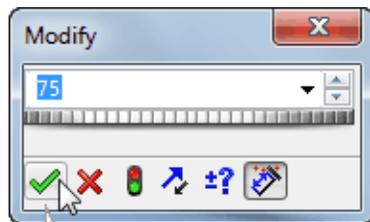

Figure 28 Changing the length dimension to 75 on the Modify dialog box
- 29 Double-click the measure of axial length and change it to 75mm on the Modify dialog box, and click  to close it. See Figure 28.